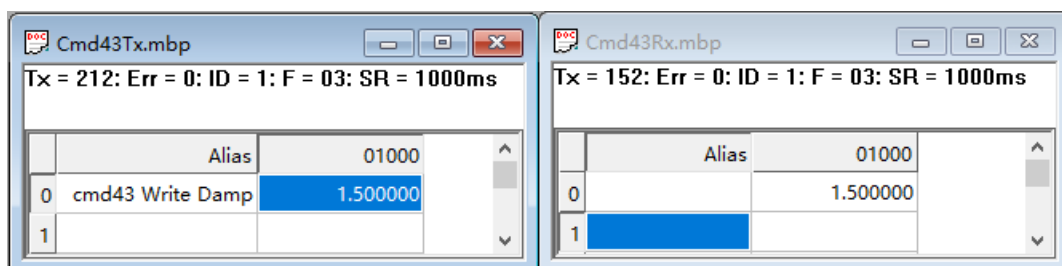

Figure 4.19 Modbus read command 34 data
As shown in Figure 4.19 above, the original value of the sending area of cmd34 is 0, and the value of the receiving area of cmd34 is 0; after the value of the sending area of cmd34 is changed to 1.5 in ②, the gateway will send the command 34 to the HART pressure gauge, and then display the response data of the received command 34 in the receiving area.